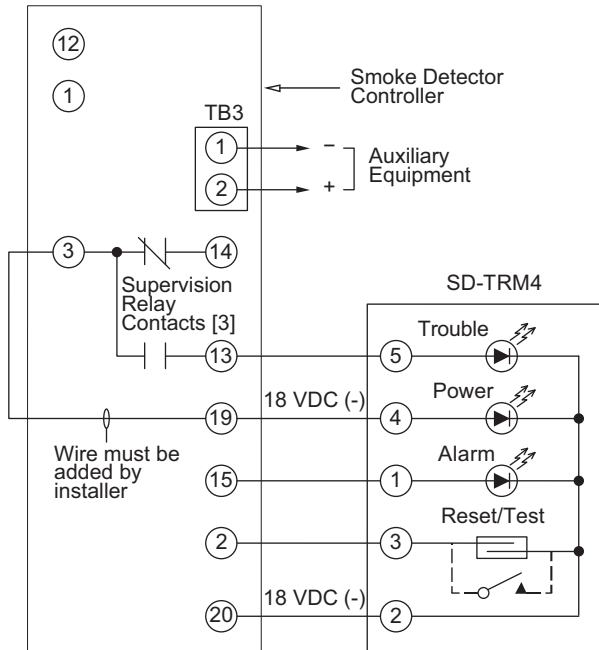

Fig. 63 – Remote Test/Reset Station Connections
The test/reset station dirty sensor test checks the test/reset station's ability to initiate a sensor dirty test and indicate the results. It must be wired to the controller as shown in Fig. 63 and configured to operate the controller's supervision relay. For more information, see "Dirty Sensor Test" on page 43.
1. Verify that the remote test/station is wired as shown in Fig. 63. Repair or replace loose or missing wiring.